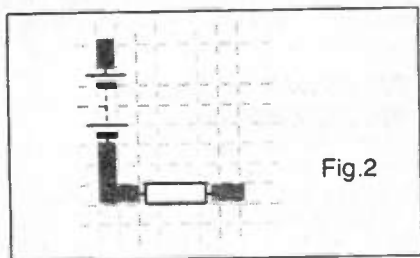

Fig. 2
2. Copper track is applied to the connections between the components (Fig. 2).